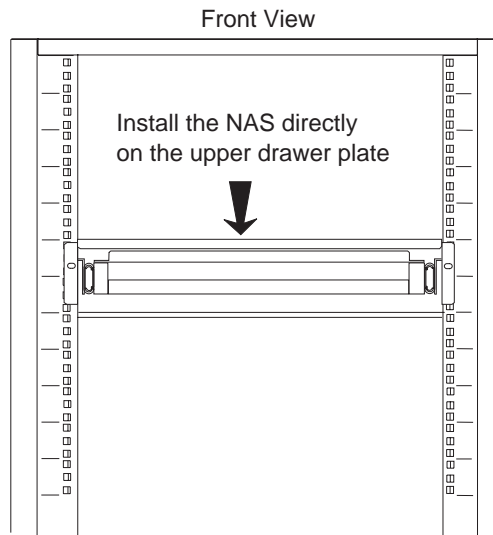

Figure 1-22. NAS Installation in 29U Rack
1. ____ Install the NAS on the upper drawer plate Figure 1-22.